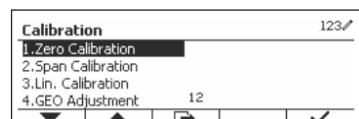

Figure 4
2. When Zero Calibration is highlighted, press the softkey corresponding to the **✓** icon to initiate. (See Figure 4)